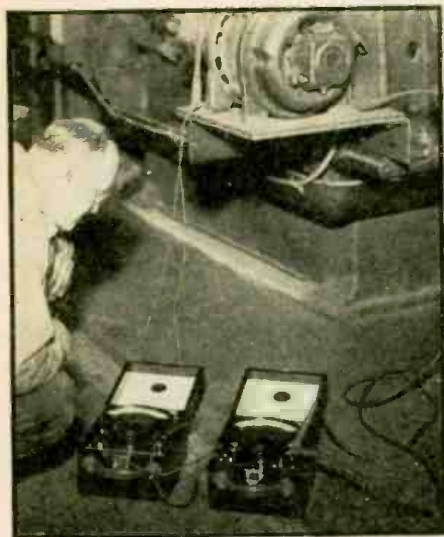

Fig. 1.—Portable meters properly placed for reading.
5. Instruments should always be read when in their normal operating position; that is, portables should be in a level, horizontal position (see Fig. 1), switchboard types in a vertical position.